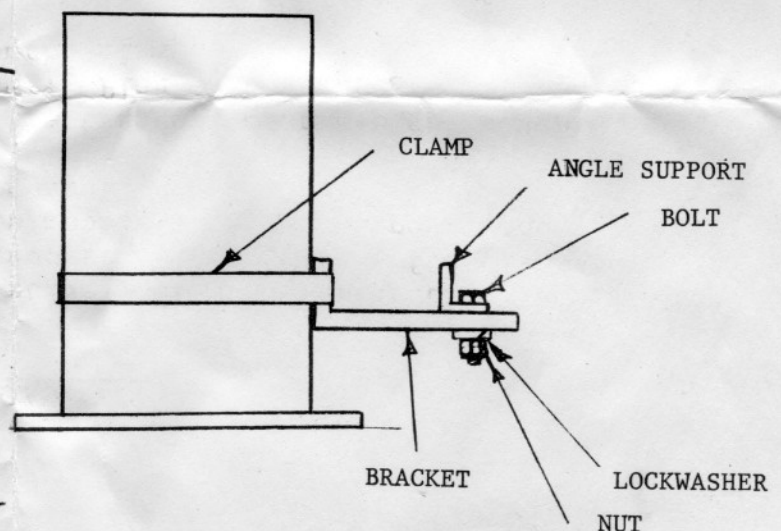

FIGURE 2
4. Remove the brackets and install on the underside of each support so their tabs are flush with the motor and directed upwards as shown in Figure 2. Secure with 1/4-20 x 3/4 inch bolts inserted from the top side with a lockwasher and nut below each support. Finger tighten each nut.